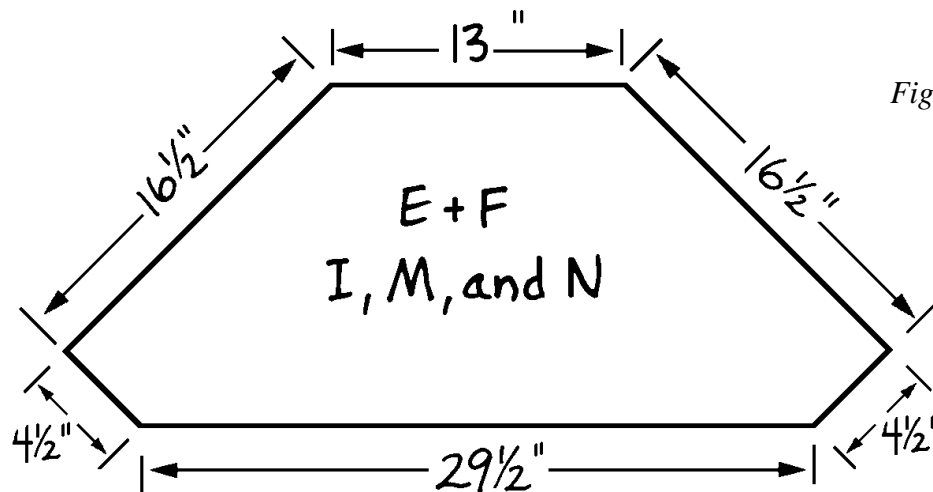

Figure 4
1. *Figure 4* shows the dimensions of the two upper shelves (E) and the top (F). The shelves must fit exactly inside the assembly. To assure a good fit, first cut a cardboard pattern of an upper shelf (E), using the dimensions provided in *Figure 4*. Position the cardboard pattern inside your assembly, check the fit, and alter the pattern as necessary. Then use the altered pattern to trace two upper shelves (E) and one upper top (F) onto 3/4" thick plywood, and cut out the plywood parts.
- Place the assembly right side up on a level surface and decide where to place the shelves. I positioned the first shelf 12" above that, but you may space the shelves as you like. Next, measure and mark both the upper back (B) and upper sides (C) with the desired locations of the shelves. The marks don't have to be exact—your job will be much easier if you use a level to position the shelves rather than relying on measurements.